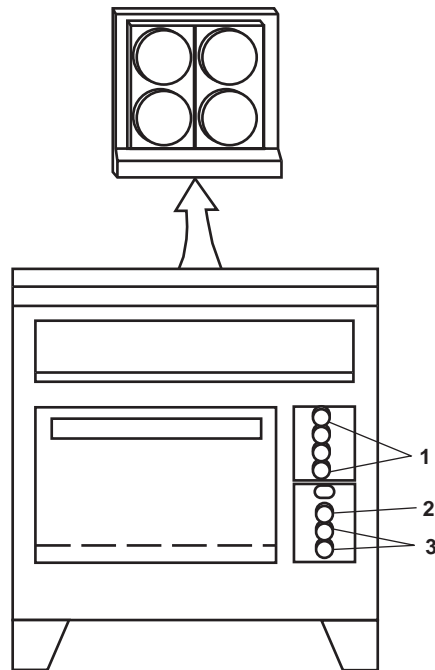

Figure 7. Range
- a. Set the appropriate LEFT-CENTER-RIGHT control (figure 7, item 1) to the desired temperature and preheat for 10 minutes.
3. To shut down the range top, set the selected LEFT-CENTER-RIGHT control (figure 7, item 1) to the OFF position.
- a. Set the oven TEMPERATURE-HEATING control (figure 7, item 2) to 50 degrees above desired temperature.
- b. Set the oven LOW-MED-HIGH element control (figure 7, item 3) to the ON position.
- e. Set the oven TEMPERATURE-HEATING control (figure 7, item 2) to the desired temperature.
- a. Set the oven TEMPERATURE-HEATING control (figure 7, item 2) to the OFF position.
- b. Set the oven LOW-MED-HIGH element control (figure 7, item 3) to the OFF position.